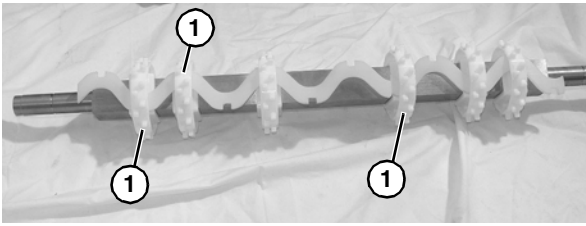

Figure 72
2. Slide the entire assembly onto the drive spindle. Be sure that at least three sprockets (**Figure 72, item 1**) are positioned such that they are on alternate opposing locations on alignment bar.